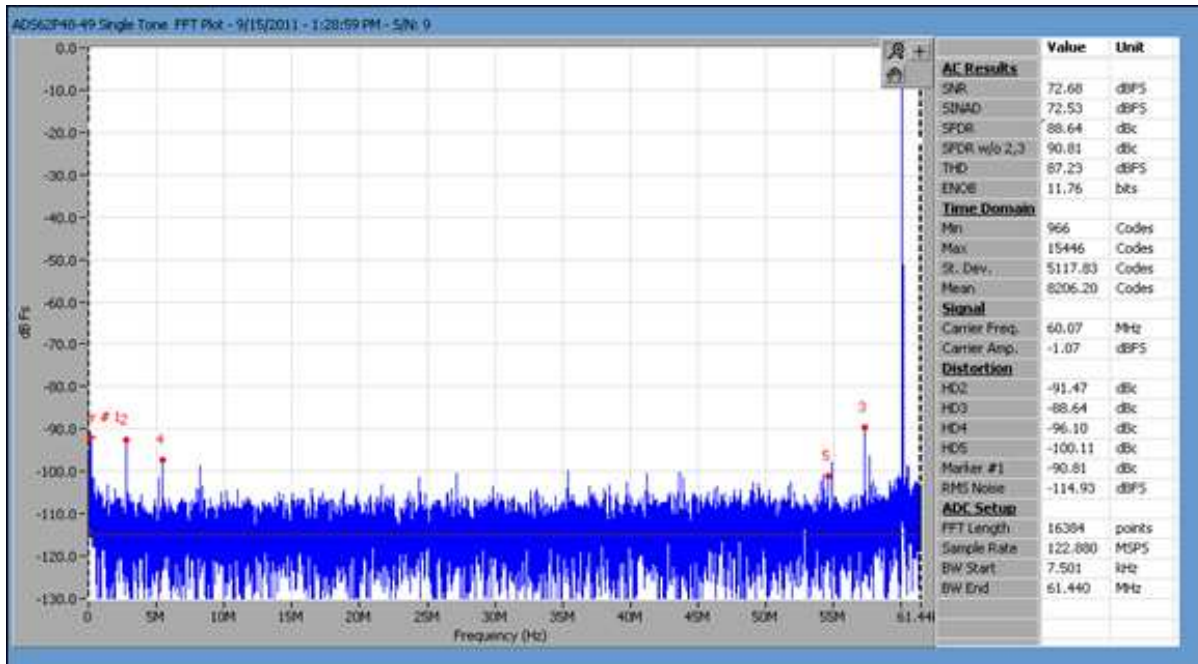
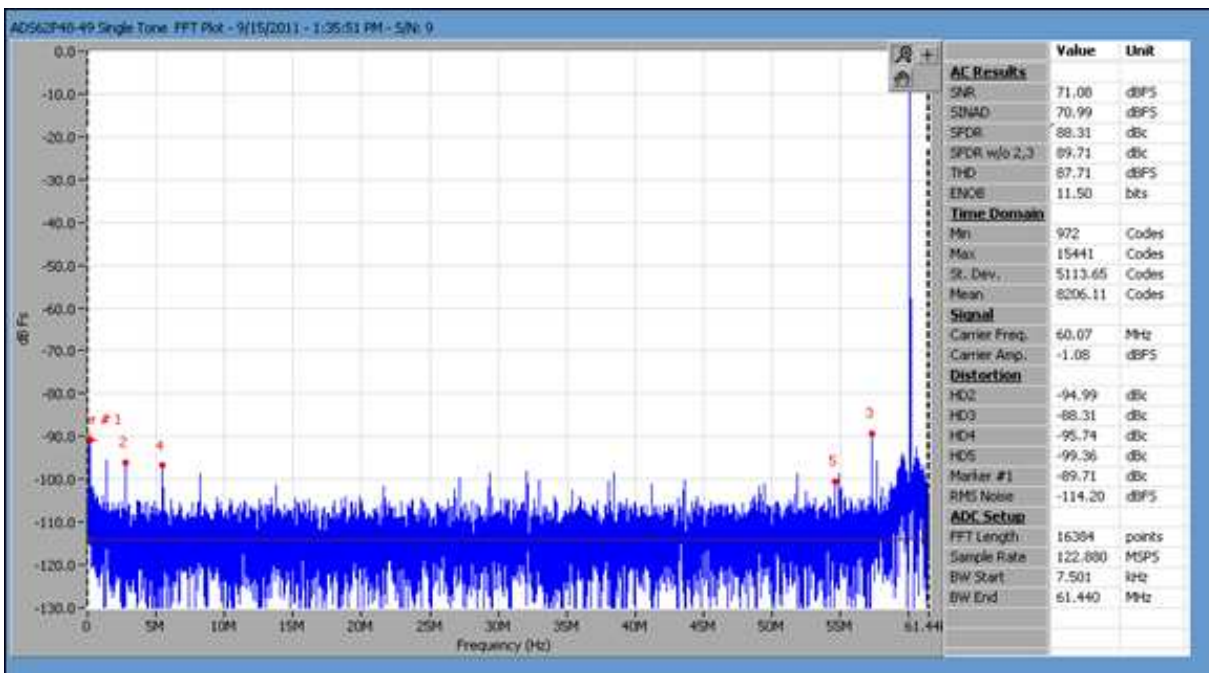

Figure 52. IF = 60 MHz Fclk = 122.88 MHz Baseline (Lab Clk Generator) ADC: ADS62P48-49
Figure 53. IF = 60 MHz Fclk = 122.88 MHz CDCM6208 Driving ADC
**Observation:** Up to an IF = 100 MHz, the ADC performance when driven by the CDCM6208 (Figure 53) is similar to when the ADC is driven by an expensive lab signal generator with additional passive source filtering (Figure 52).